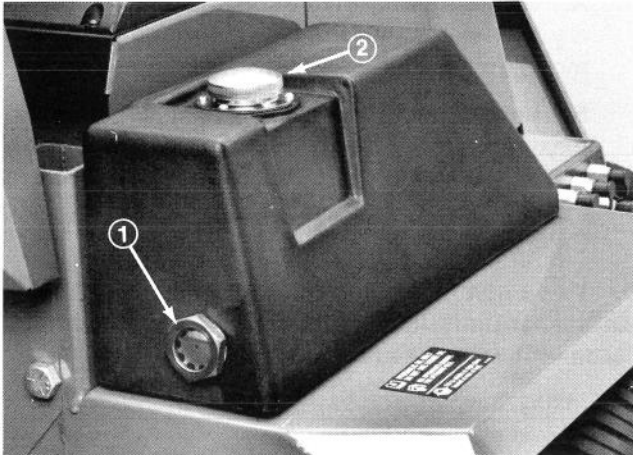

Figure 46
1. Visually check hydraulic oil level daily through sight glass (Fig. 46). With machine on a level surface, oil should be in the middle of the sight glass when warm and slightly below level when cold.
2. If oil needs to be added, clean area thoroughly around the fill cap before removing cap (Fig. 46). Add oil until proper level is indicated in sight glass.
3. With machine on level surface, fill reservoir with hydraulic oil until oil level is midway up in sight glass (Fig. 46).
2. Breather is located along right side of radiator (Fig. 46). Clean area around it, unscrew it with a wrench and install replacement.